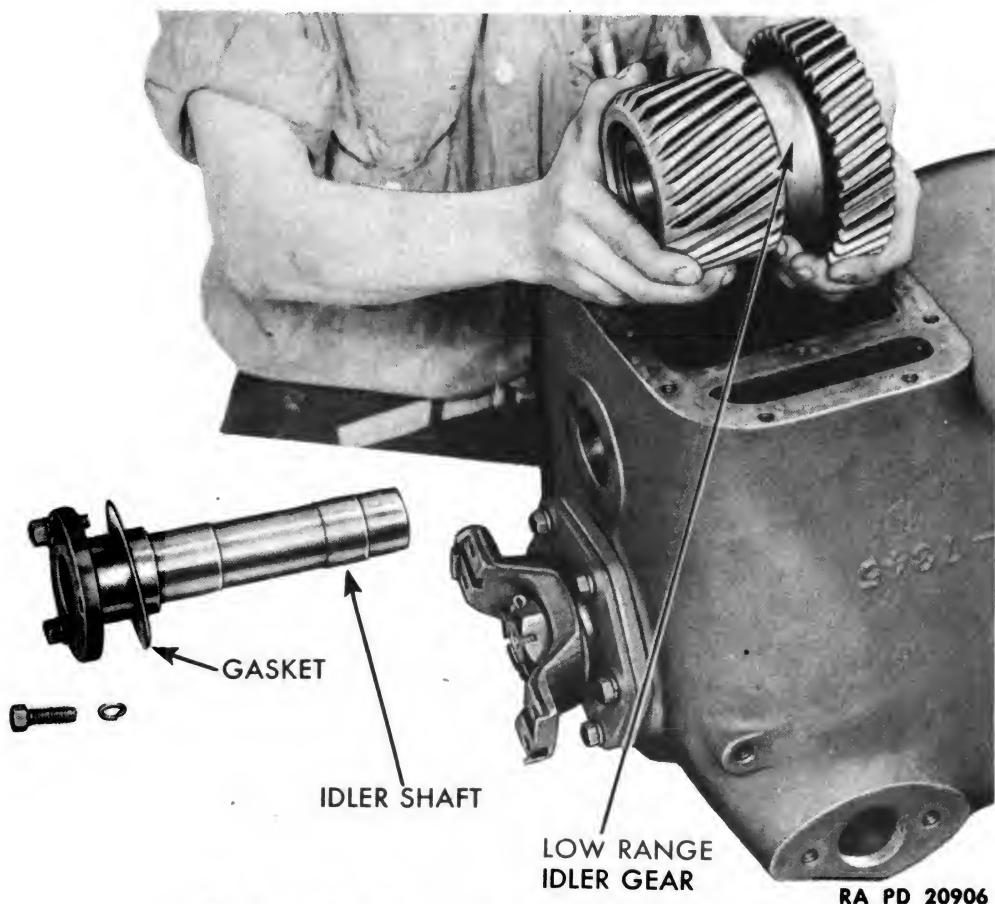

Figure 178 — Removing Low-Range Idler Gear
c. Remove Low-Range Idler Gear Assembly (fig. 178). Remove three cap screws and lock washers attaching idler shaft to clutch housing. Install slide hammer type puller (41-P-2957-27) and final drive shaft pinion puller adapter (41-A-18-150) into